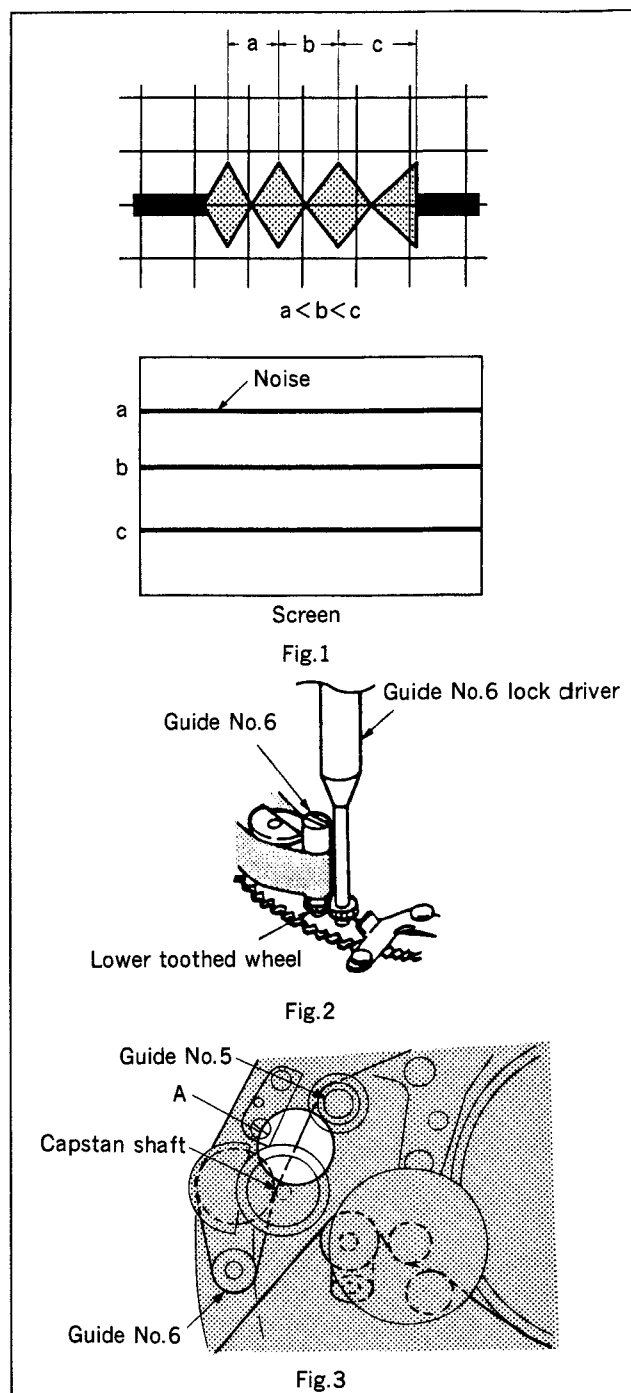

Fig. 6-4-4 Exite side noise pitch adjustment
See Fig. 6-4-4 (1).
- 5-6. Rotate the lower toothed wheel using Guide No.6 lock driver, in counterclockwise direction to loosen it. (See Fig.6-4-4 (2).)
Note: If Guide No.6 is raised too high, tape wrinkle will result at portion-A between capstan and Guide No.5. So check for tape without wrinkle. (See Fig.6-4-4 (3).)